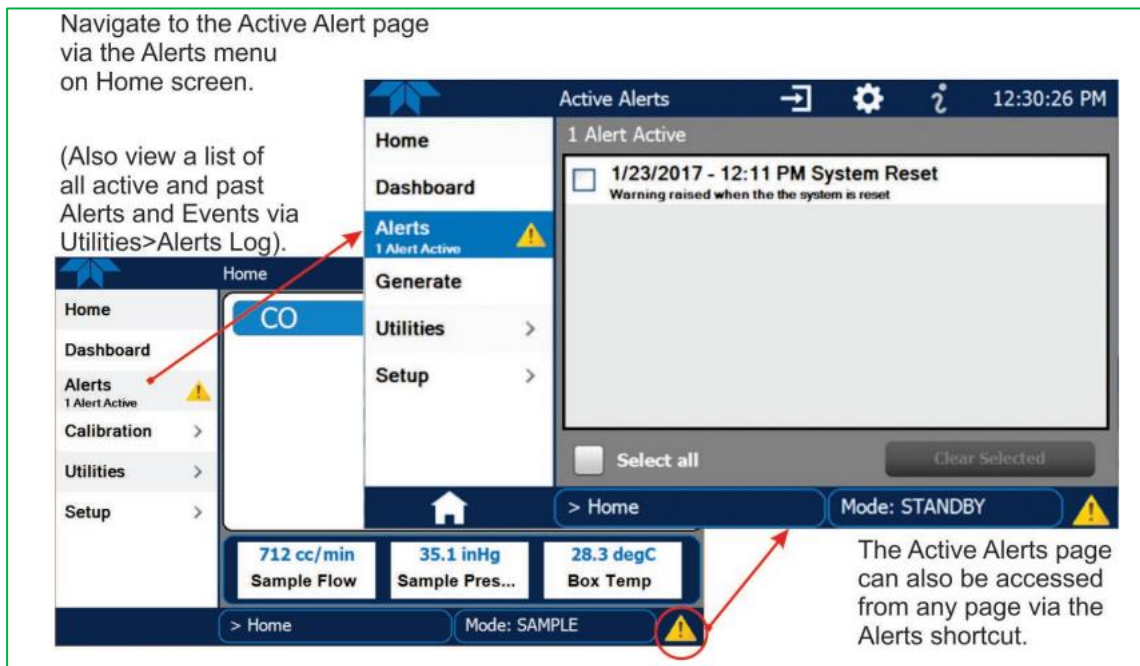

Figure 8 - Alert menu display of API T300 CO with NumaView. ©Teledyne API
2. If the yellow warning triangle light is on (shown in figure 8), an error has been generated due to some instrument operating parameter falling outside pre-set